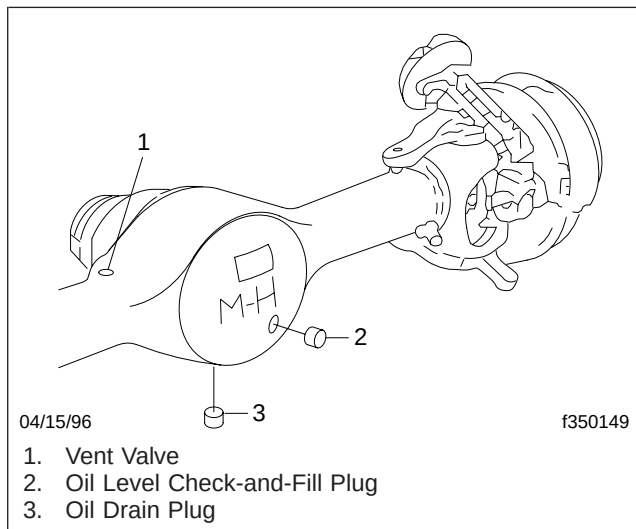

Fig. 5, All-Wheel-Drive Front Axle Differential
- 3.1 Remove the oil-drain plug from the differential, and allow the oil to drain. See **Fig. 5**.